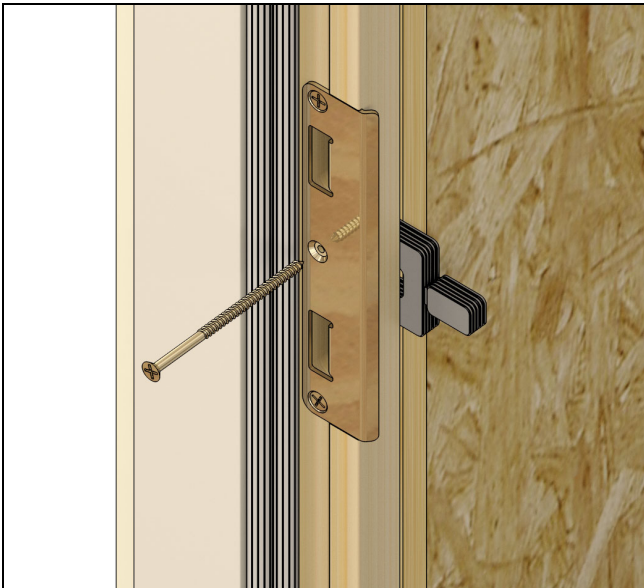
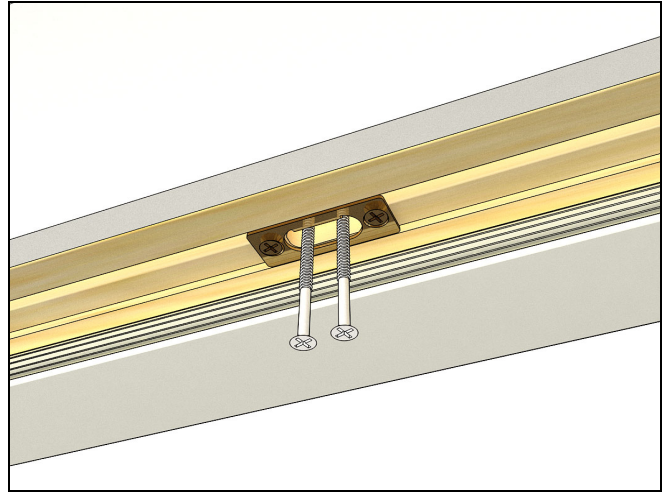

Figure 23
Figure 24
2. On all side jamb and head jamb strike plates, remove and replace the screws fastening the strike to the frame with the longer screws and drive into the rough opening frame as shown in Figure 23 and Figure 24. Screws will stay intact on the head jamb strike plate and two #10 installation screws as shown in Figure 24.